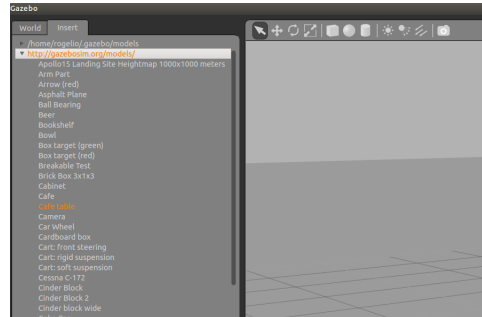

Figure 3.1: Model list on <http://gazebo.org/models/>
2.- On the window opened. Click on the *Insert*, scroll down and expand the model list <http://gazebosim.org/models/> (see Fig. 3.1).